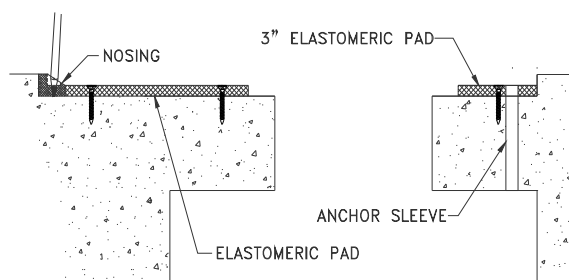

Figure 14
**STEP 27.** Select a section of the nosing, and place it into its installed position, abutting the nosing to the outside edge of the pad. Ensure that the nosing is straight, level, and properly aligned. Using the nosing as a template, mark the location of the anchors on the concrete (see Figure 14). Ensure that the nosing remains straight, level, and properly aligned.